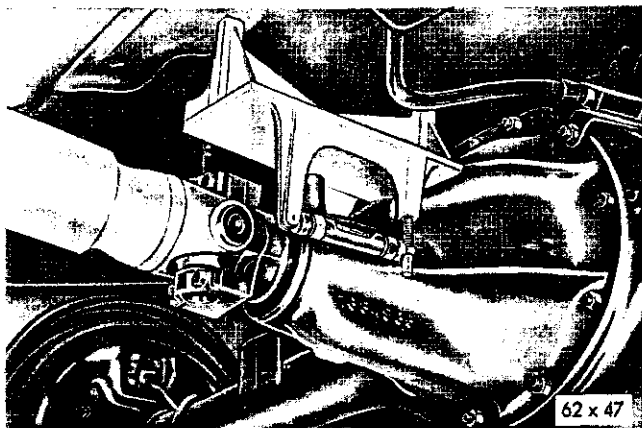

Fig. 3—Checking the Angle of the Rear Axle Housing
(3) Hold the gauge, Tool J-6485 on the machined surfaces of the rebound plate bosses (Fig. 3). Adjust the gauge to center the bubble in the spirit level.
(4) Hold the aligning gauge Tool J-6485 on the machined pads of the differential carrier and adjust the gauge to center the bubble (Fig. 3).